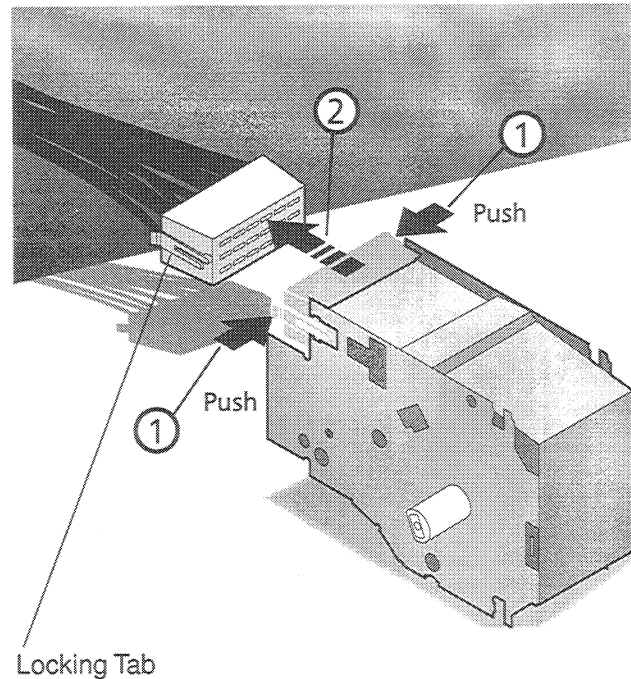

Figure 4
7. Push in on locking tabs and pull multiconnector from timer. (See Figure 4.)